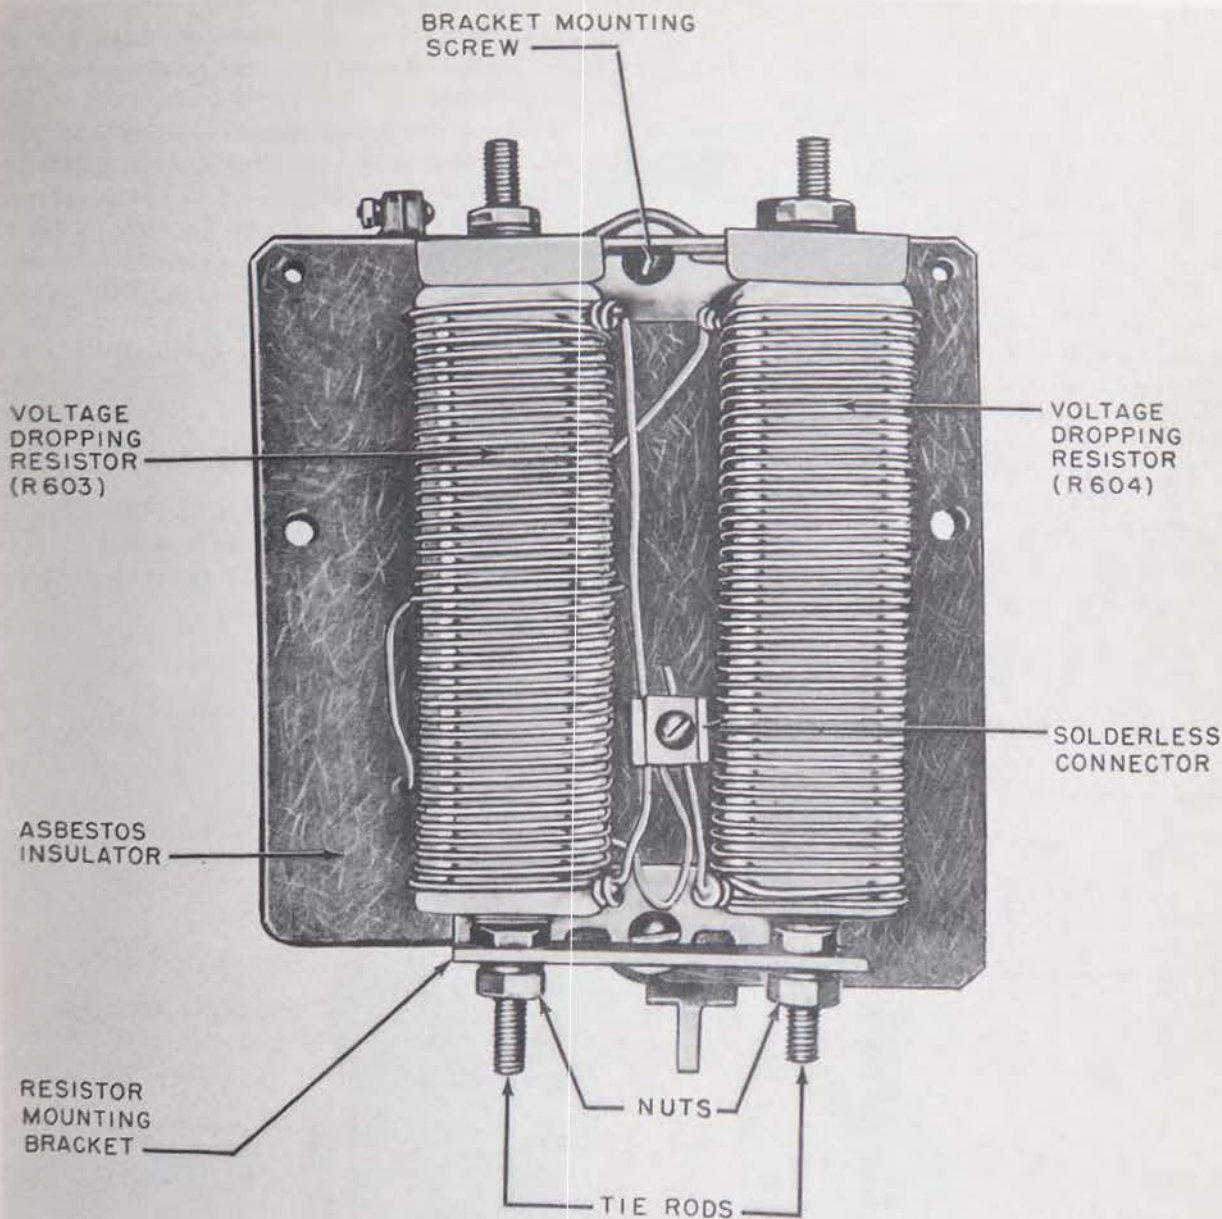
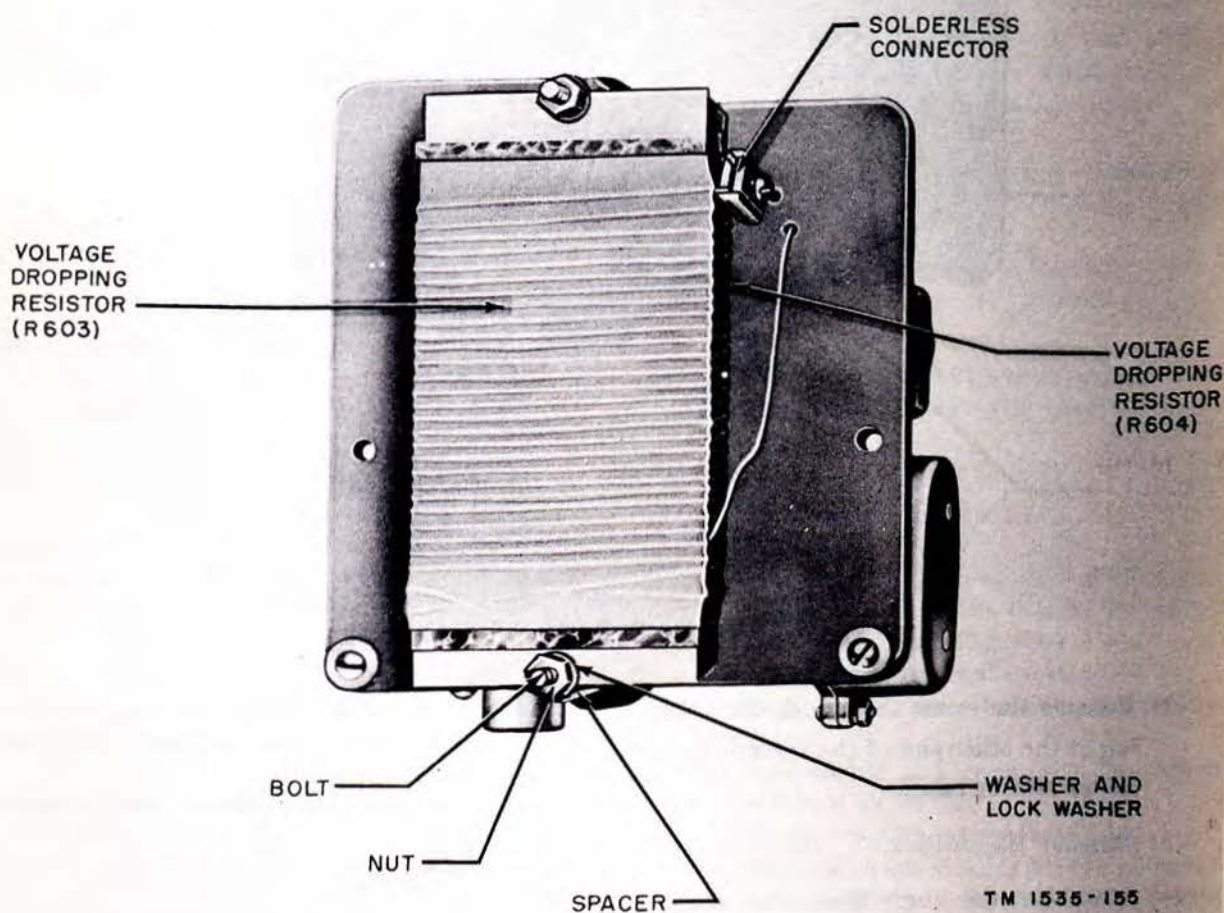

Figure 176. Motor Starter SA-286/SPN-11, rear view.
Figure 177. Motor Starter SA-287/SPN-11, rear view.
- (2) Remove the screw that holds the solder lug at the other end of the resistor to the motor starter base.
- (3) Remove the resistor.
- (4) Unsolder the lugs from the resistor leads.
- (5) Solder these lugs to the lead of the new resistor after first installing tubing on the leads.
- (6) Reassemble all parts in reverse order of disassembly.
e. *Voltage Dropping Resistors R603 and R604 for Motor Starters SA-285/SPN-11 and SA-286/SPN-11 (fig. 176).*
- (1) Disconnect the three resistor leads from the FLD terminal and from the two stationary accelerating contact terminals, and pull them out through the base of the motor starter.
- (2) Remove the solderless connector.
- (3) Loosen the nut at one end of the tie rod and slide the resistor out of the resistor mounting bracket.
- (4) Remove all nuts and washers from one end of the tie rod and slide the resistor off the tie rod.
- (5) Replace the resistor.
- (6) Reassemble all washers and nuts in exactly the same order as they were originally.
- (7) Slide the resistor into the slots on the resistor mounting bracket.
(8) Reassemble all parts in the reverse order of disassembly.
(9) Push the leads through holes in the motor starter base and reconnect them as before.
f. *Voltage Dropping Resistors R603 and R604 for Motor Starter SA-287/SPN-11 (fig. 177).*